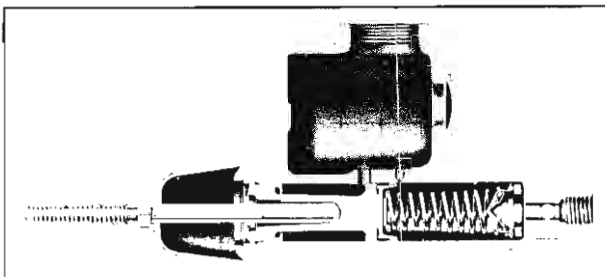

Fig. 23—Checking Compensating Port Clearance
**NOTE:** This check is made easiest by using a wire inserted through the reservoir of the body and extending into the piston chamber (fig. 23).